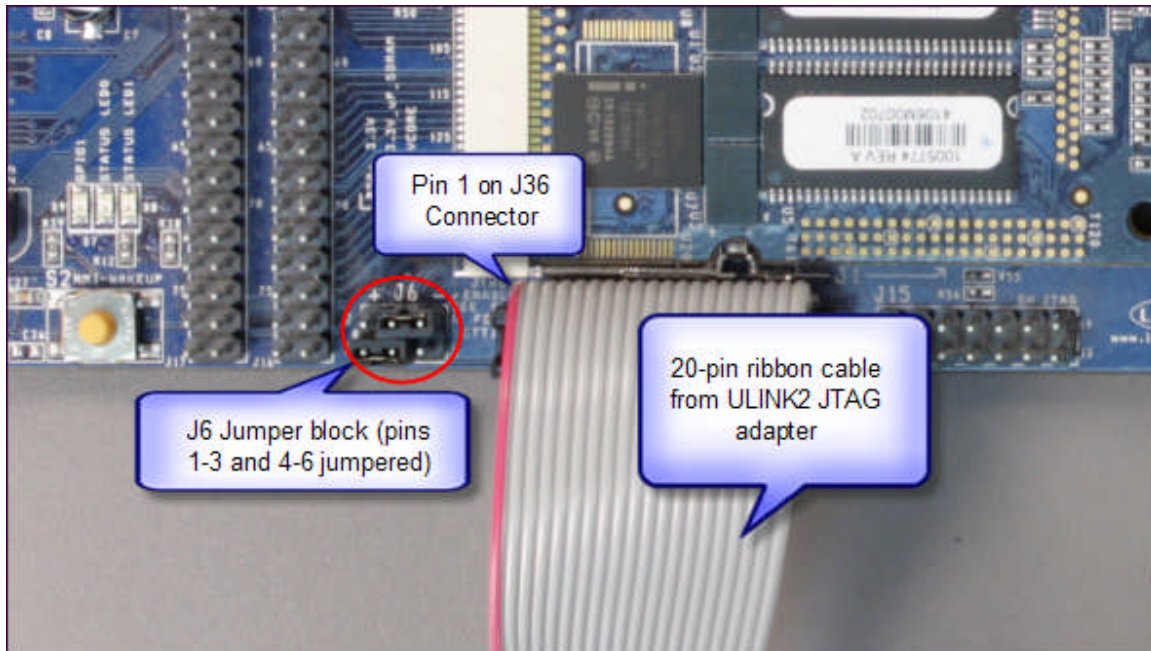

Figure 1 Jumper Settings for the Zoom SDK Baseboard
2. Connect the 20-pin ribbon cable from the ULINK2 JTAG adapter to the **J36** header on the Zoom SDK baseboard (Figure 1). This connector is not keyed. Make sure pin 1 on the cable (red tracer) is oriented toward pin 1 on the header.